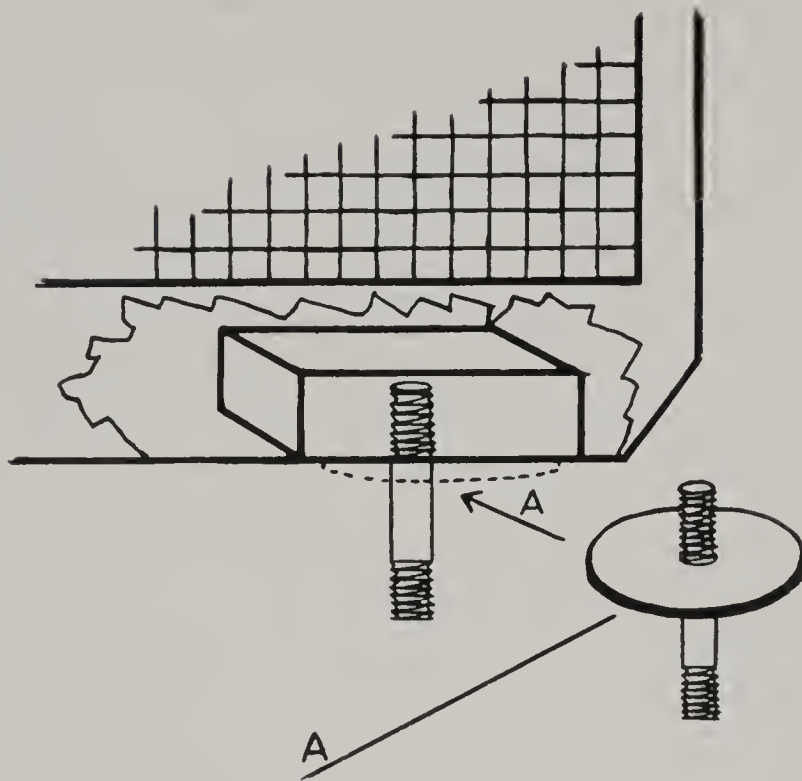

Fig. 52
**21. Repairing Leak Around a Stud**—Radiators which have stud bosses or nuts inside the bottom tank as in Fig. 52 have been a source of much trouble to the repair man. The weave of the frame or the thrust of the tie rod and engine hood loosens the solder between the nut and the inside of the tank. It is an expensive job to remove the bottom tank in order to reset these bosses. There is a very economical way to overcome the leak.